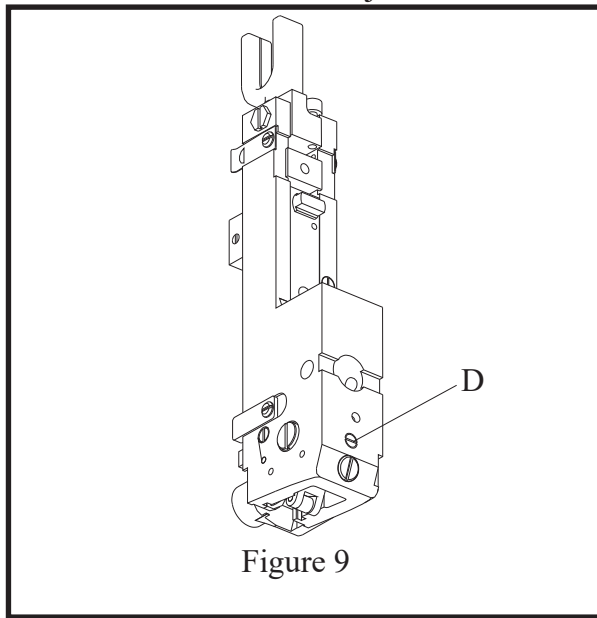

Figure 9
C. Head/Clincher Alignment (Fig. 9, 10)
1. To adjust for front-to-rear alignment: (Fig. 9)